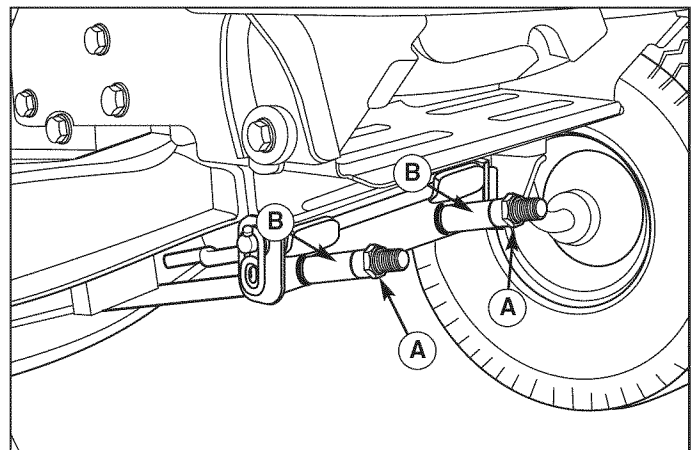

Figure 40. Leveling The Mower Side-to-Side
8. To raise front of mower deck, tighten locknuts (A, Figure 40) and against spacers (B). To lower front of mower deck, loosen locknuts (A). Locknuts must be turned evenly on both sides to keep deck level.
10. Re-check the blade measurement then tighten the front nut (B) against the bracket to secure.